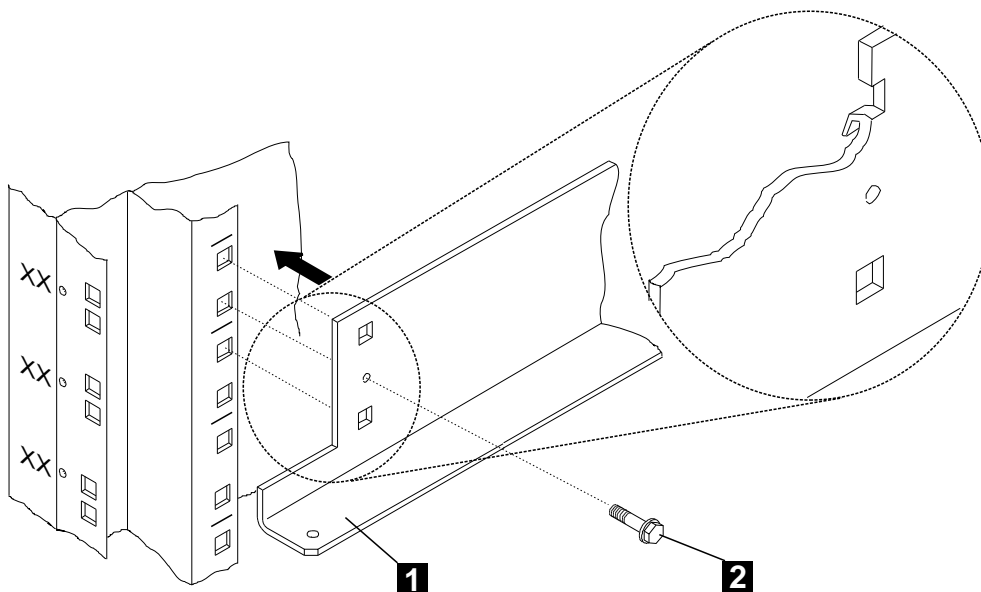

Figure 1-2. Brackets Installation
3. \_\_\_\_ **Install** two brackets **1** (PN 58G5793) using four screws **2** (PN 2665527) in the controller expansion as shown in Figure 1-2.